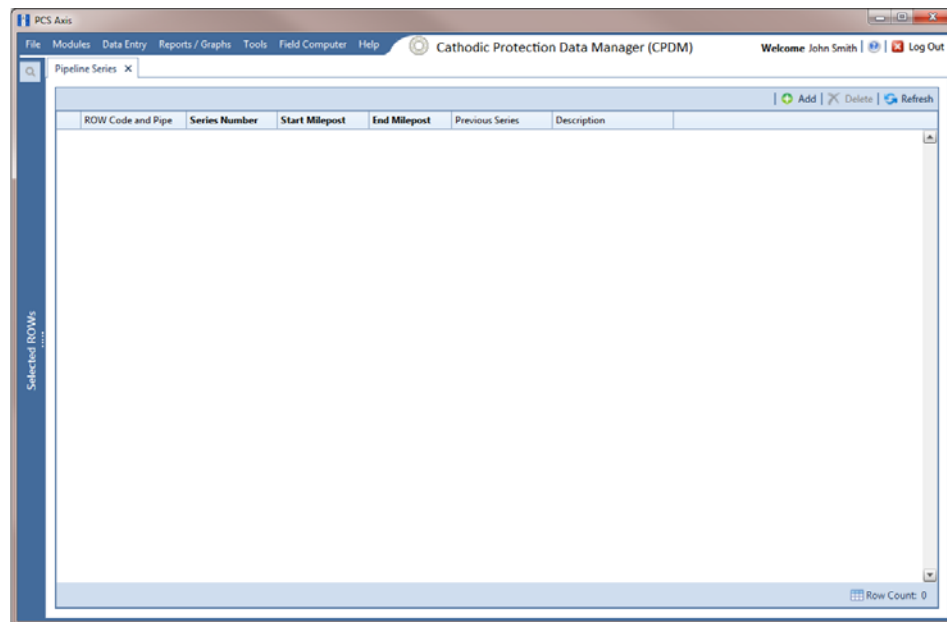

Figure 3-70. Pipeline Series
- 3 Click **Data Entry > Pipeline Series** to open the *Pipeline Series* window (Figure 3-70).